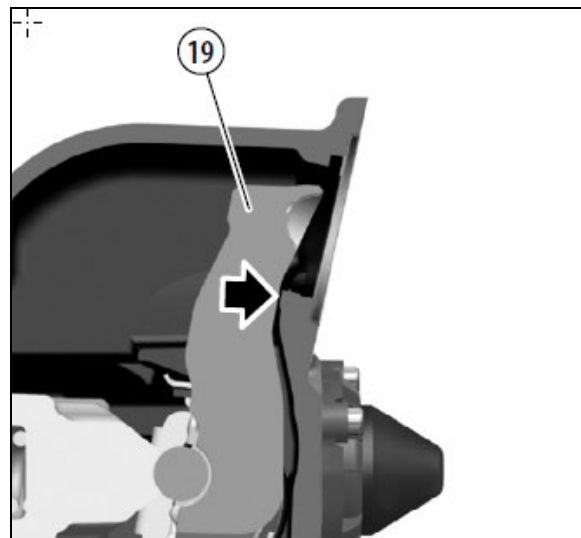

FIGURE 38: CHECK LEVER POSITION
3. By pushing and pulling the caliper in an axial direction by hand (see arrows in Figure 38), a movement of 0.6 - 1.1 mm must be possible.